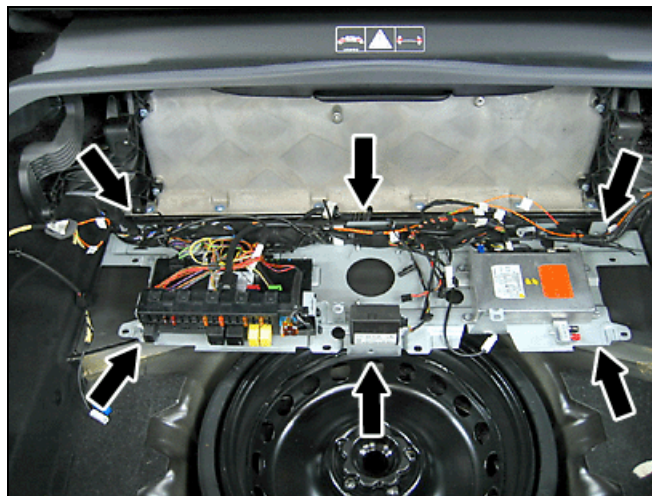

Figure 1
5. Lay down the equipment carrier on its backside to expose the attached components on its front (Figure 1).